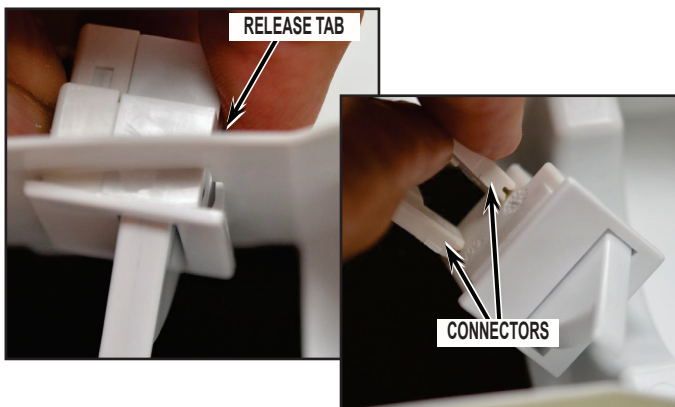

FIGURE 16
18. To remove filter switch, depress release tab and push the switch through, disconnect wires. See *Figure 16*.